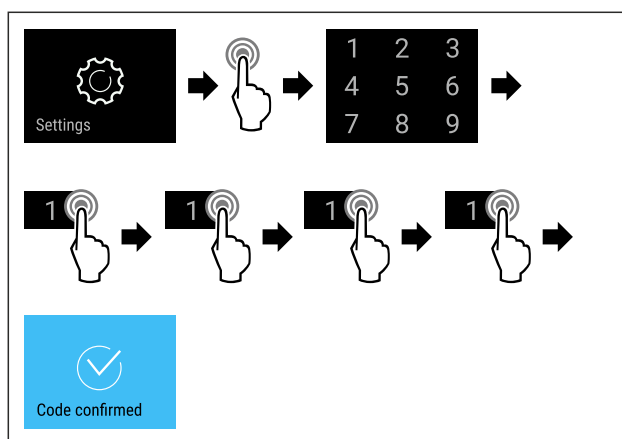

Fig. 79
- ▶ Complete the steps (see Fig. 79).